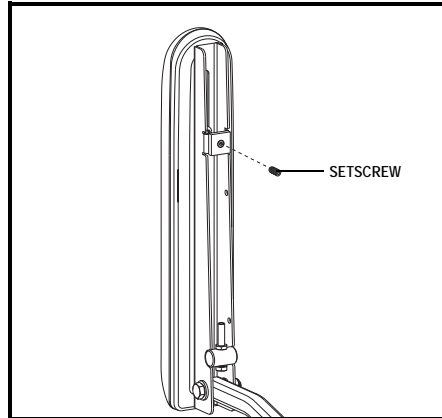

Figure 15. Underside of Armrest
2. Loosen the setscrew on the controller bracket. See **figure 15**.
5. Loosen the setscrew on the controller bracket. See **figure 15**.